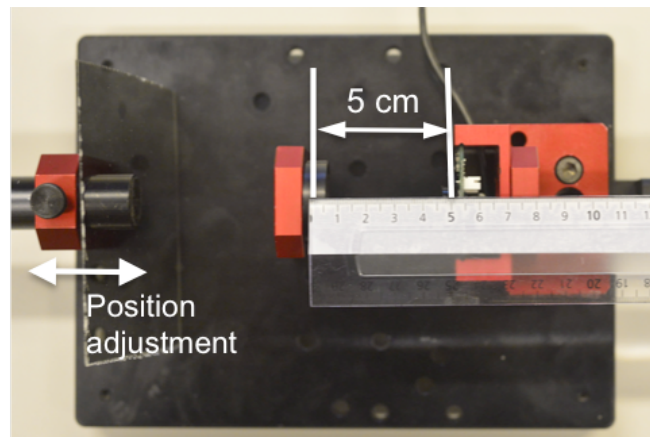

Figure 18 Mount then source as shown in the images. The distance between camera and lens should be approximately  $2f = 25.4\text{mm} \times 2 = 50.8\text{ mm}$
- Set the distance between lens and camera to be 2 times the focal lengths of the lens ( $f=25.4$  mm) – you should set the distance at around 5 cm (see below Fig. 18)